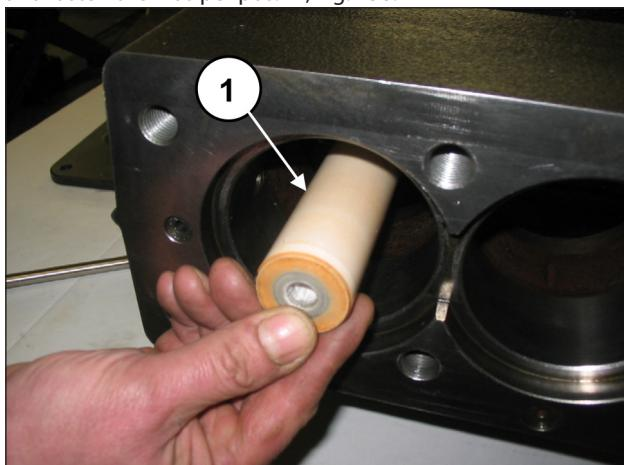

Fig. 157
Install the pistons on their respective guides (pos. ①, Fig. 157) and fasten them as per pos. ①, Fig. 158.